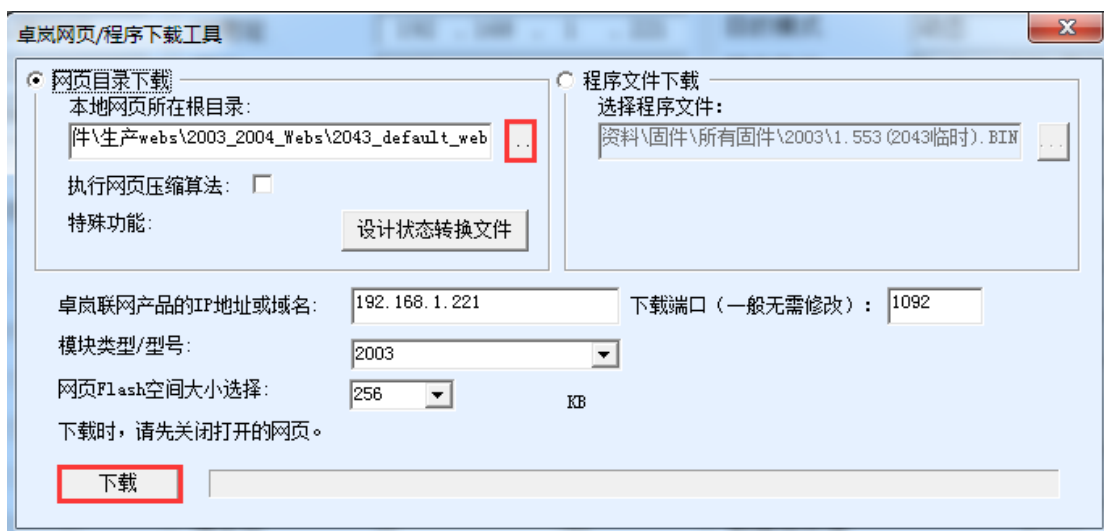

Figure 53 Web upgrade method of ZLSN2003
- 3) As shown in Figure 53, select the "program file download" radio option. In the program file, select the firmware file. The IP address part of the serial port server has been filled in automatically, no need to write again, and the module type/model has been selected automatically. Then click download.
- 6) Web configuration interface update: after firmware upgrade, the configuration page inside the module also needs to be updated, otherwise it cannot be configured through the Web again, but it does not affect the communication. Web pages can also be downloaded without a web configuration. To download the Web, change the "program file" download mode to "Web directory download" as shown in figure 53. And select the root directory where the local web page is located as the directory where the web files need to be downloaded (the directory can be obtained from ZLAN), click download, and download all the files in the local web page directory to the internal file system